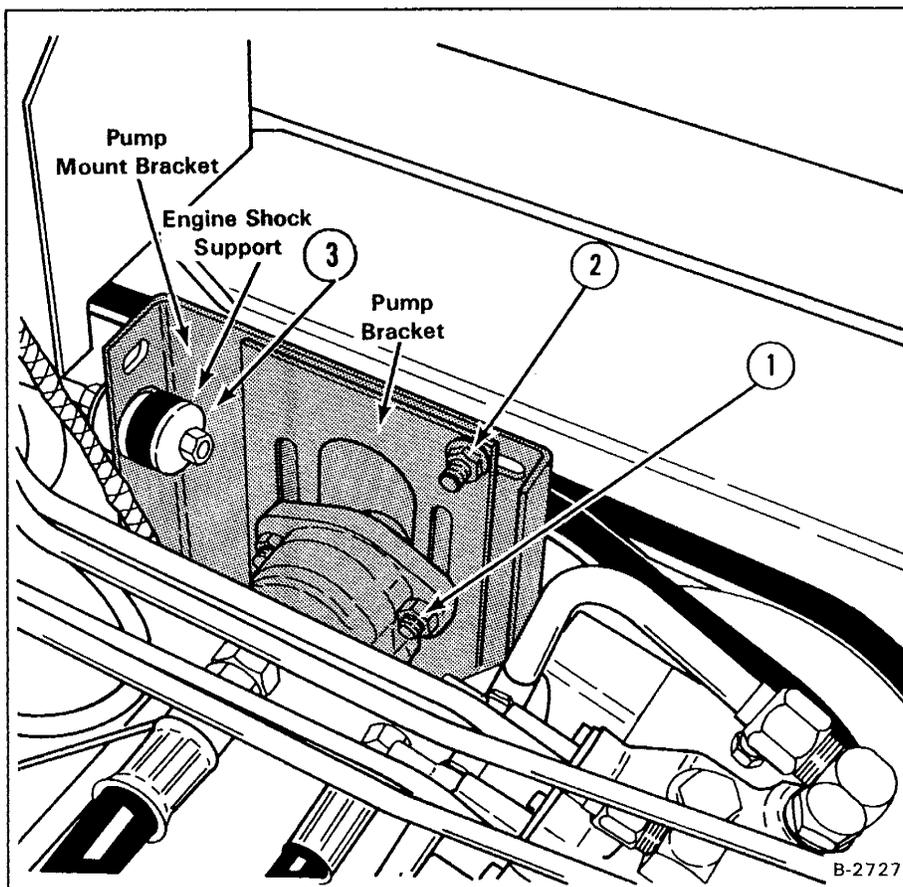
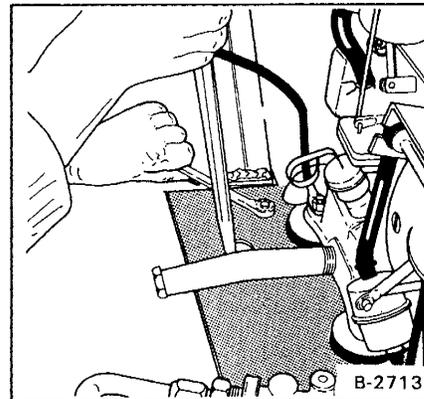

Fig. 1-32 Pump and Pump Mounting Bracket
Fig. 1-33 Adjust Belt Tension
- (1) Loosen the hydraulic pump mounting bolts (Fig. 1-32, Item 1).
- (2) Loosen the bolts for the hydraulic pump mounting bracket (Fig. 1-32, Item 2).
- (3) Loosen the nuts for the engine shock mount (Fig. 1-32, Item 3).
- (4) Loosen the bolts on the engine mounting plate.
- (5) Move the engine mounting plate to the rear with a pry bar to adjust tension on the outside belt (Fig. 1-33). Tighten the bolts for the engine mounting plate.
- (6) Move the hydraulic pump up and the pump mounting bracket to the rear at the same time to adjust the inside drive belt and the drive belt for the hydraulic pump. Tighten the hydraulic pump mounting bolts and the bolts for the hydraulic pump mounting bracket.
- (7) Tighten both nuts on the engine shock support an equal amount, until the rubber bushings are at one half their original length.